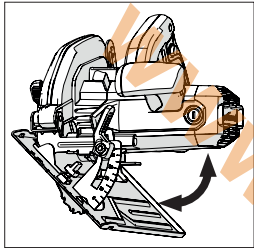

Fig. 14
- Tilt the blade to the required angle as indicated on the quadrant protractor scale. (Fig. 14)
(14) OPERATING ADVICE (PRE OPERATION CHECKS)